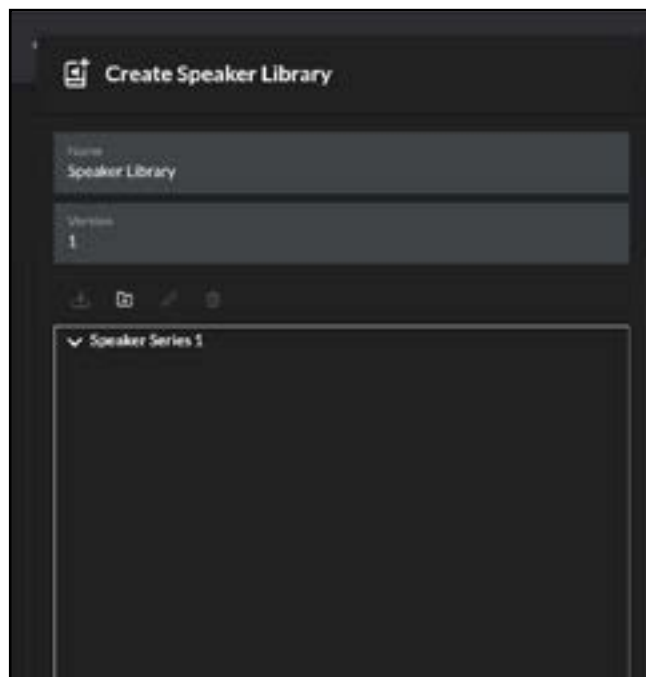

Figure 5.13
- The **Speaker Library** menu enables management of speaker preset libraries. Existing libraries of speaker preset files (.zcl) can be created or imported, and existing libraries edited or fully deleted. **Figure 5.13** illustrates the creation and management of speaker preset libraries.